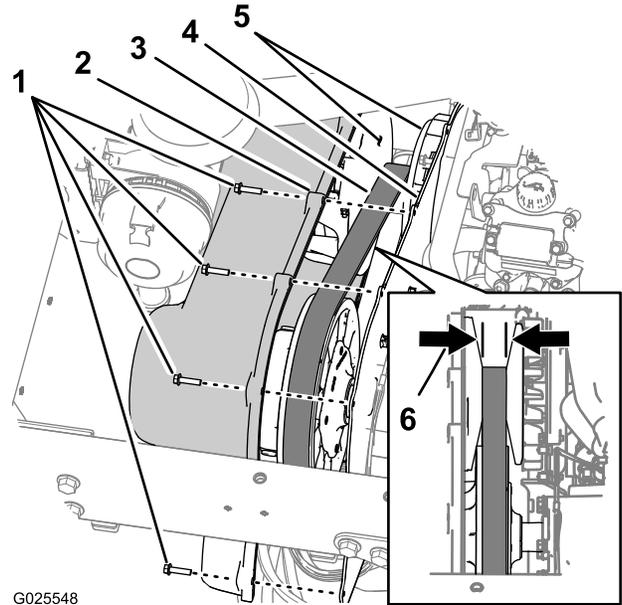

Figure 73
- Remove the 9 hex-washer bolts (1/4 x 1 inch) that secure the transmission cover to the mounting plate of the transmission (Figure 73).
- Move the cover forward until you can see the drive belt (Figure 73).
- Check the tapered faces of the primary clutch for signs of damage (Figure 73).
- Check the drive belt for missing or damaged cogs (Figure 73).
- Measure across the belt and record the belt width (Figure 73).
Note: If the width of the belt is 29.5 mm (1.16 inch) or less, replace the belt (Figure 73).
- Align the holes in the transmission cover with the holes in the mounting plate (Figure 73).
- Secure the cover to the mounting plate (Figure 73) with the 9 hex-washer bolts (1/4 x 1 inch) that you removed